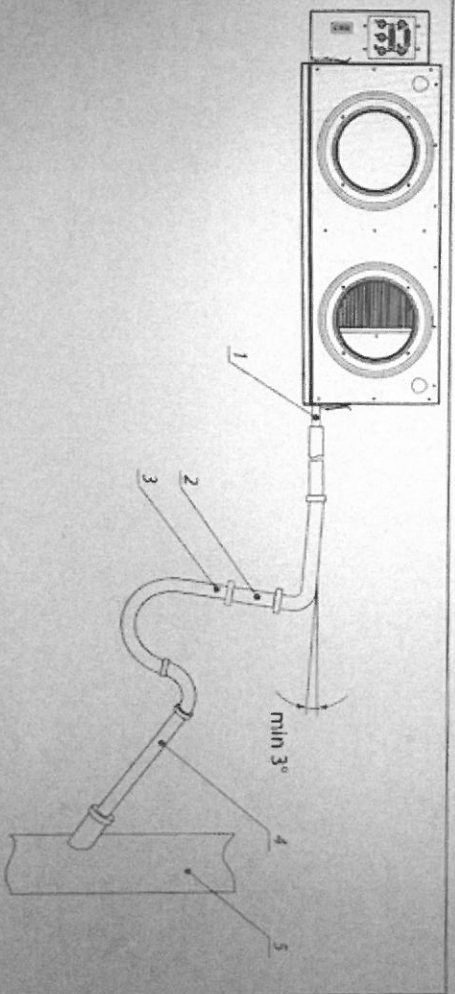

fig. 5 Condensate drainage
The Vents Frigate HRV 120 S unit is equipped with a condensate drain hose for condensate drainage (fig. 5). Connect the drain hose (1), U-trap (3) and drain system (5) with metal, plastic or rubber pipes (2 and 4). The pipes must be sloped down at least by 3°. Before starting operation of the unit fill the system with water and check that U-trap is always filled with water. Make sure that the water drainage is correct, otherwise some condensate may be accumulated inside the unit and provoke subsequent equipment damage and water ingress to the room. The condensate drainage system is designed for operation at the ambient temperature above 32 °F (0 °C). If the ambient temperature is below 32 °F (0 °C), insulate the drain system and provide air heating.